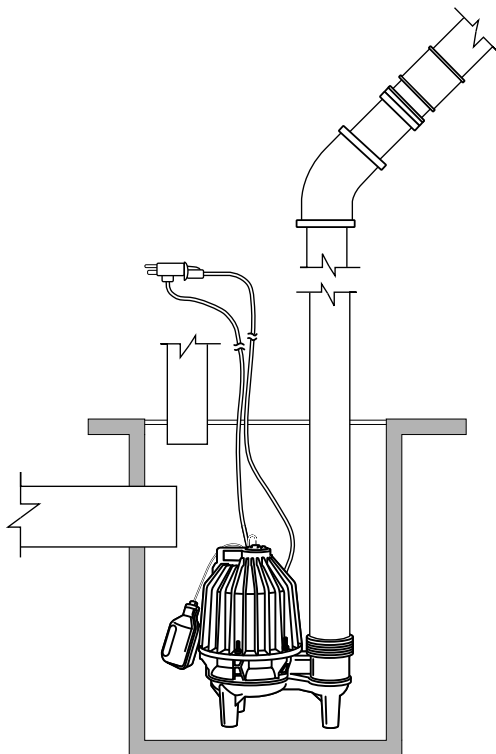

Figure 3 - Sewage Pump Installation
1. Construct a basin from concrete, steel, or plastic that is 24" deep and at least 18" in diameter (Figure 3). If the basin already exists, make sure it is the proper size.